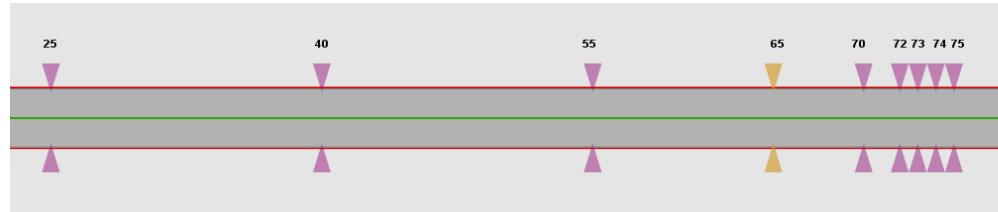

Figure 3.16: Braking test pylon placement
- Place the first alley in the center of the road, 25m away from link start. Define 3.5m as width and place seven more pylons as shown in Figure 3.16.